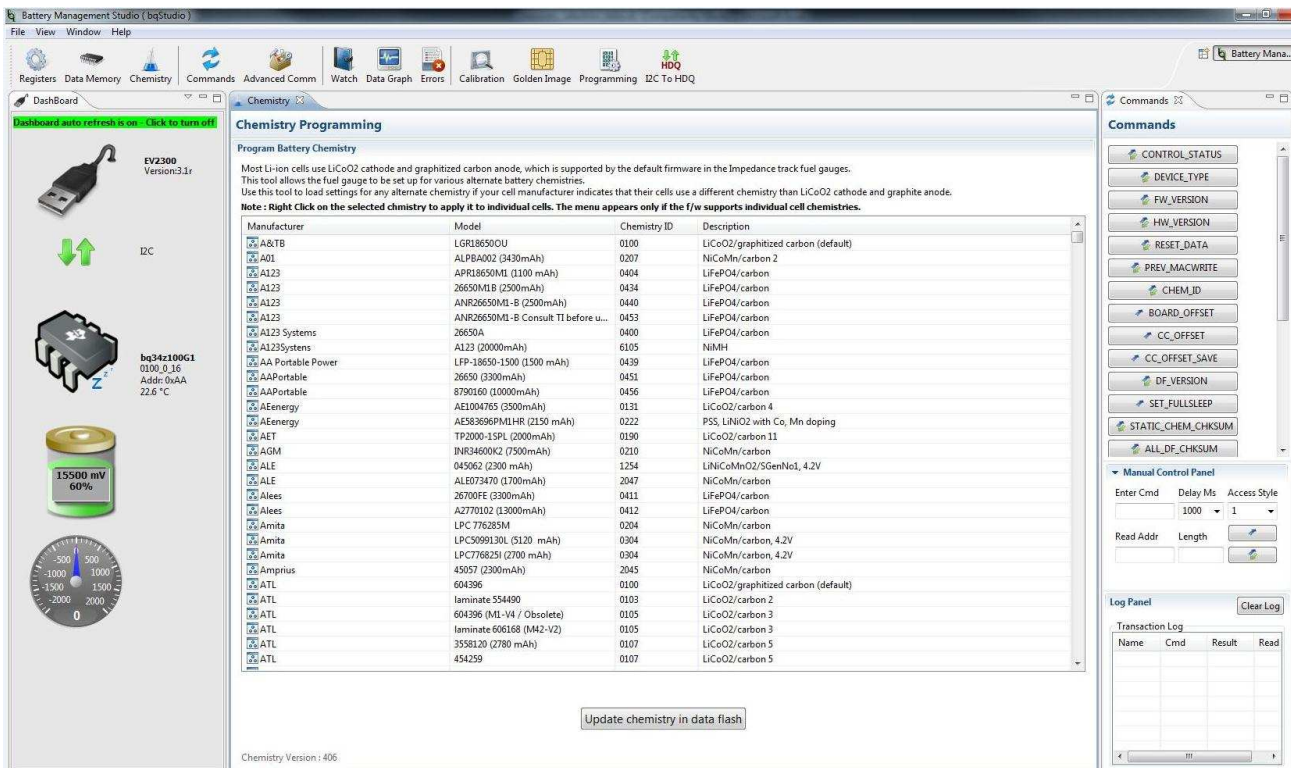

Figure 5. Chemistry Screen
Press the *Chemistry* button to select the Chemistry window. See Figure 5.
- Select the ChemID that matches your cell from the table (Figure 5).